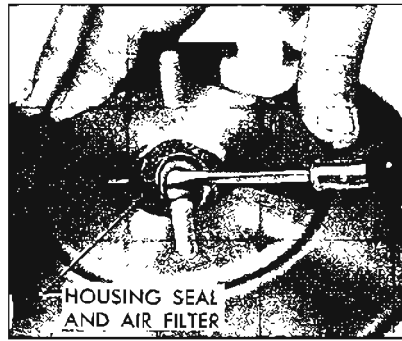

Figure 9-23—Removing Housing Air Cleaner and Guide Seal
11. Remove housing air cleaner and guide seal and its retainer from center hole of housing. See Figure 9-23.